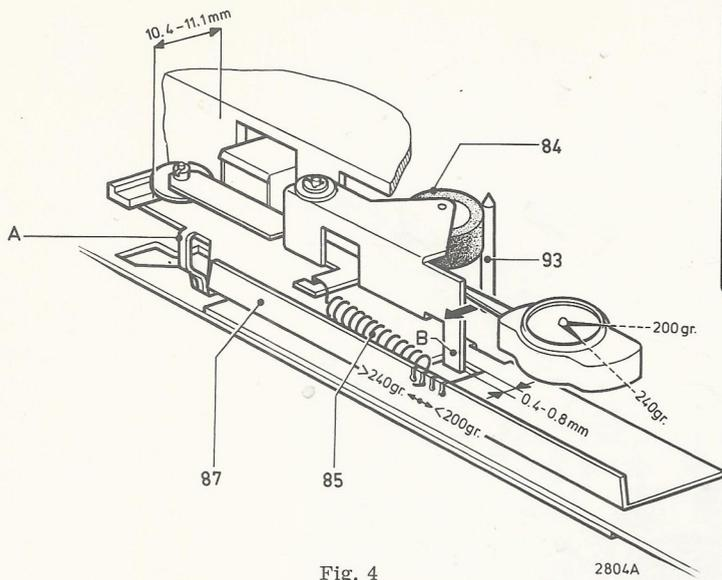

Fig. 4
5. Head bracket 87 (Fig. 4)
6. Pressure roller lever 84 (Figs. 4 and 5)a. Adjusting the spring 85
- Adjust the lever by bending the lower part of lug B (Fig. 4).